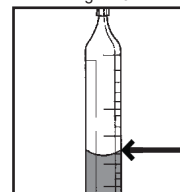

Figure 7
9. Repeat Steps # 7 and 8 until a permanent color change (persists at least 30 seconds). When the color of the liquid in the ampoule changes to **COLORLESS** (maybe cloudy), remove the ampoule from the Titrettor. Hold the ampoule, tip pointed upward, and read the scale opposite the liquid level (fig. 7). Results are expressed in ppm (m/Liter) sulfite (SO₃).